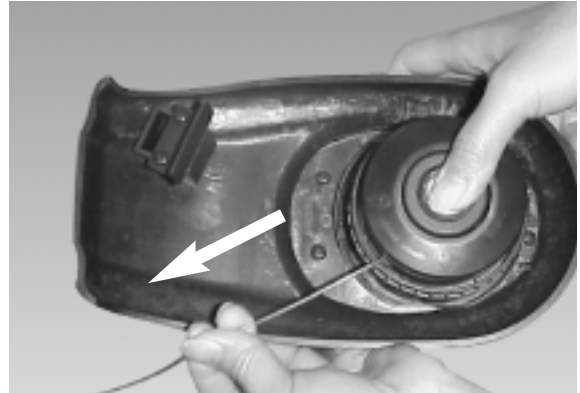

Fig. 6
1. When starting the string trimmer for the first time, check that the nylon lines touch or pass over the line-cutting blade. If they are not long enough, press the button and, at the same time, pull the nylon lines (Fig. 6).